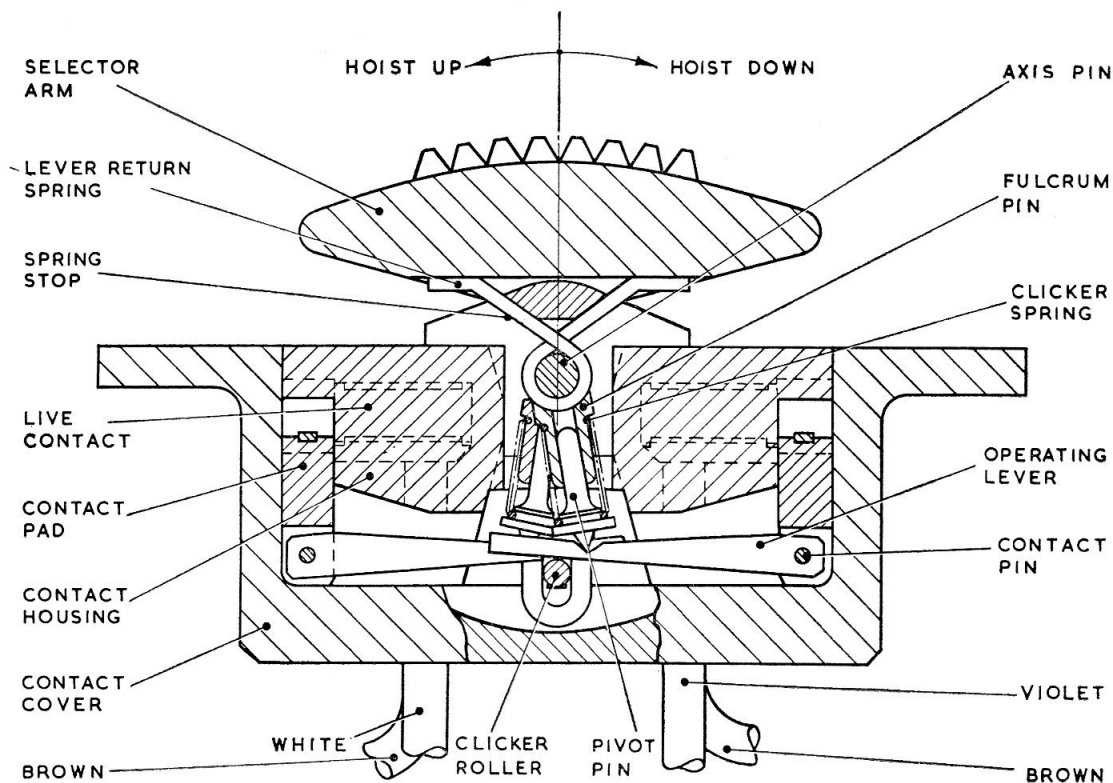
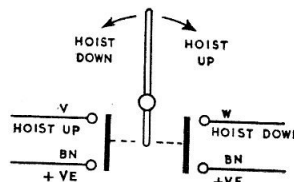

Fig. 1. Sectional view of typical switch
Fig. 2. Circuit diagram
2. A sectional view of the switch is shown in fig. 1, and a wiring diagram in fig. 2. A grooved selector arm, with spring-return to centre off, has two operating positions, HOIST UP and HOIST DOWN. As one particular position is selected, the selector arm turns around the axis pin, the base of the arm at the same time carrying the clicker roller past the line of action of the spring-loaded pivot pin on that side.
4. As shown in fig. 2, selection of HOIST UP makes contact between brown and violet, selection of HOIST DOWN between brown and white. As the operating pressure is released, the selector arm is returned by spring pressure to a central position, and the mechanism takes up again the position shown in fig. 1.